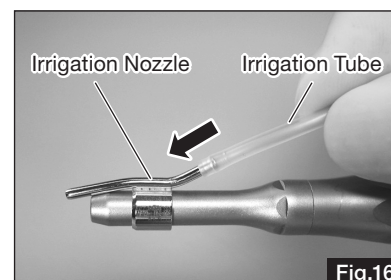

Fig.16
- 3) Mount an Irrigation Nozzle for the Attachment onto the other end of the Irrigation Tube (Fig. 16).